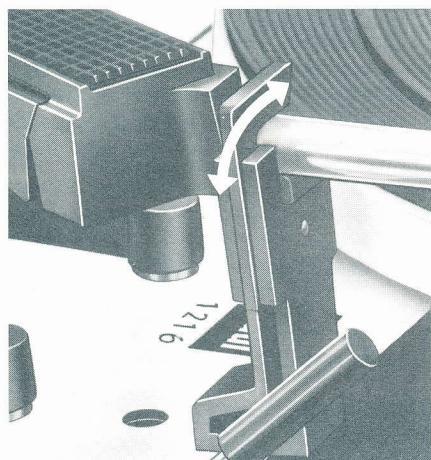

Fig. 7
Select the appropriate turntable speed ②, set the record size selector ⑯ to 7", 10" or 12" resp. (17,25 or 30 cm), depending on the size of the record you want to play, and unlock the tonearm (Fig. 7).
**Note:** At the end of a record, or at the end of the last record of a stack, the return of the tonearm and switch-off are automatic. It is advisable to lock the tonearm in place (Fig. 7) after turning off the system.